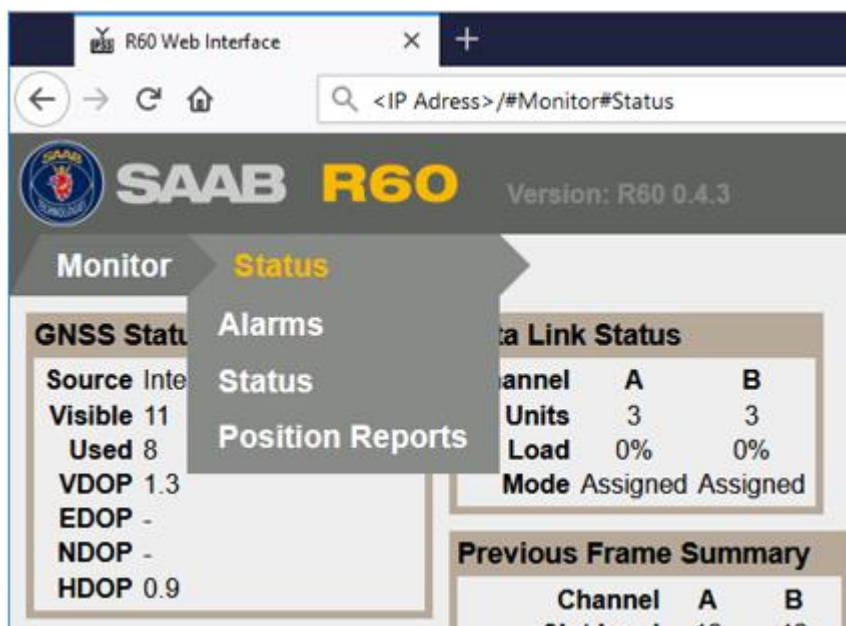
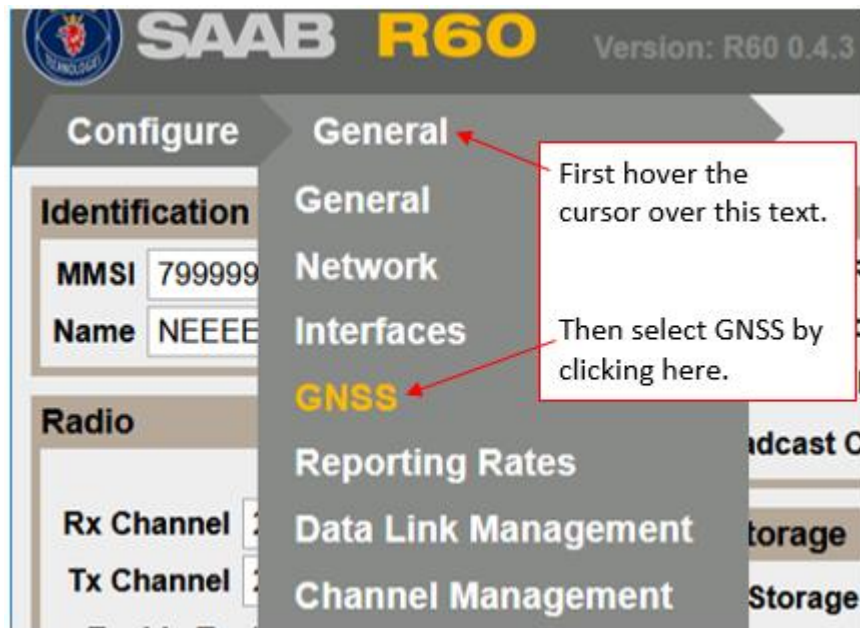

Figure 3-5: Shortcuts to top level of the present sub-category, or directly to other sub-categories
Figure 3-9: Changing from the *General* sub category directly to the *GNSS* sub category
If your browser can access the R60 unit, and if you have used the correct IP address, the web GUI start page will now appear. The start page displays the four main categories as shown in Figure 3-5.
By moving the cursor over the sub-category text, shortcuts to other sub-categories (within in the same main category) appear, if available. Shortcuts can be clicked on to navigate directly to that other main category page. See example in Figure 3-5 below and Figure 3-9 on page 32.
8. Leave the *General* category and move to the *GNSS* settings category. Since the *General* and *GNSS* sub categories are in the same main category group (*Configure*), the fastest way to do this is to move the cursor to hover over (or click on) the *General* text in the navigation line, and in the menu that appears click on the *GNSS* sub-category (see Figure 3-9).